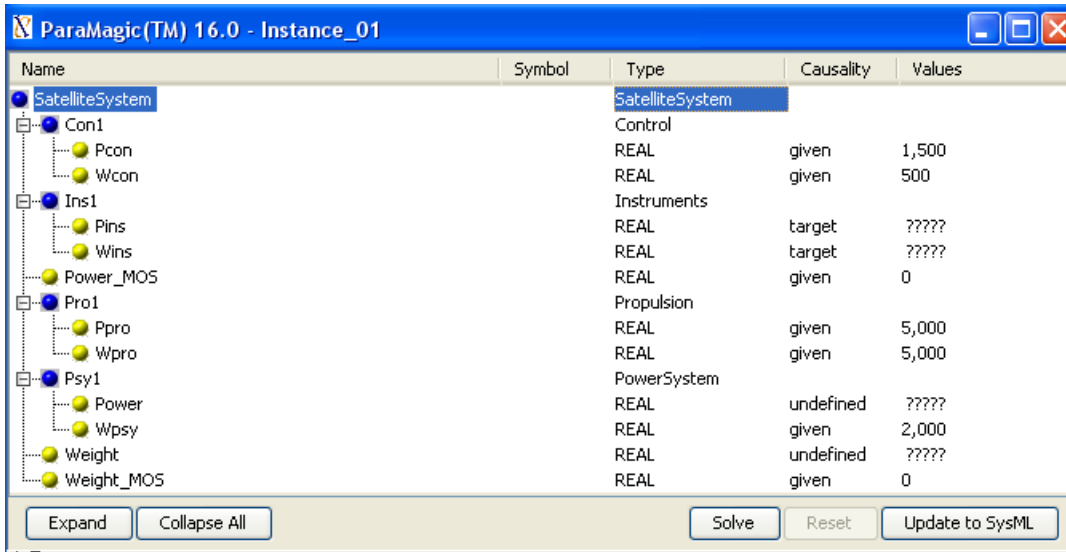

Figure 3.12 ParaMagic Browser for Instance_01, before solution, with changes in causality
- c. To change a target value to a given, or a given value to a target, change the causality for that parameter. In Figure 3.12, the problem has been inverted. “Given the weight budget (10,000 kg) and power budget (10,000 kW) and the properties of the other subsystems, how much weight and power can be allocated to the Instruments subsystem?”. In this example, we set the margins of safety equal to zero and calculate Wins and Pins as targets. The solution is shown in Figure 3.13.